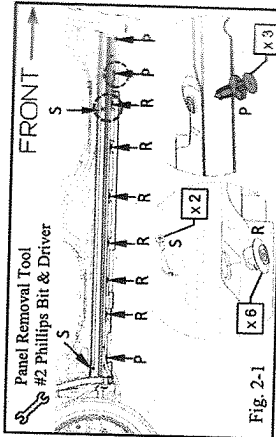
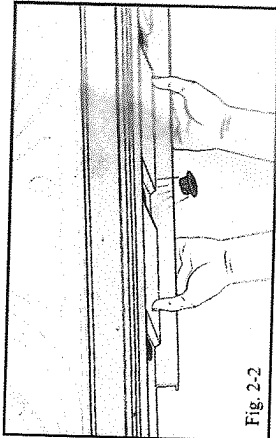

Fig. 2-1
Fig. 2-2
- (a) Using a #2 Phillips driver, unfasten two (2) screws (S). One (1) at the front and one (1) at the rear of the rocker panel molding (Fig. 2-1).
**▲ NOTE:** Retain one (1) of the screws for reinstallation, discard the other.
- (b) Using a panel removal tool, remove and discard the two (2) push-pins (P) at the front and one (1) at the rear (Fig. 2-1).
- (c) Pull the cladding down and out along the bottom for each of the six (6) rocker panel molding retainers (R) – this will cause them to pop out of the rocker (Fig. 2-1, & Fig. 2-2). Discard the retainers.